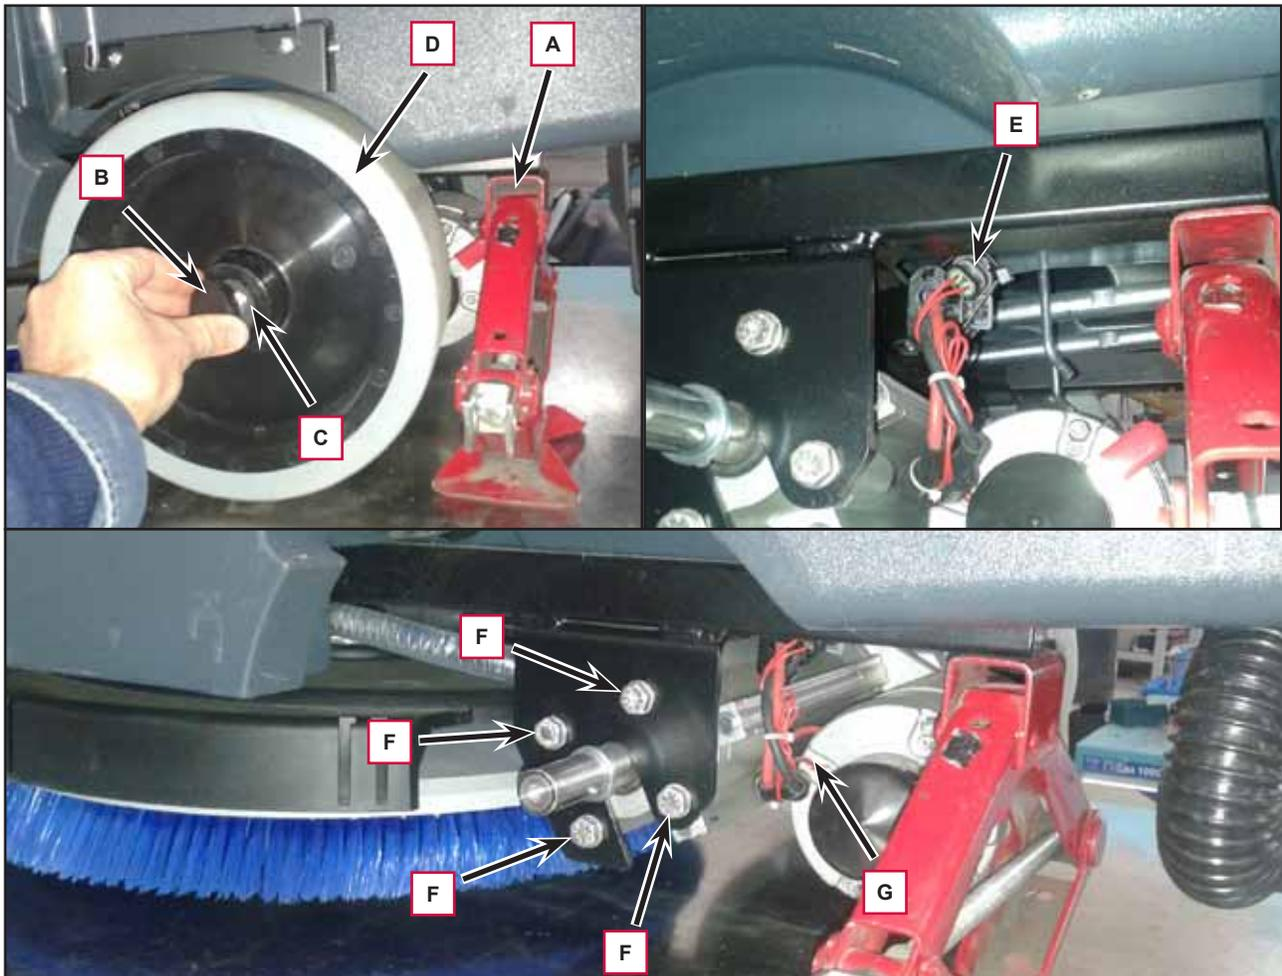

Figure 5
3. Apply a jumper wire (A, Figure 5) on the driver's seat sensor connector to disable the system.
5. Place a suitable lifting device (B) to raise one side of the machine approximately 2 cm from the floor (C) and allow one driving wheel to turn freely.
2. Place a suitable lifting device (A, Figure 5) to raise one side of the machine approximately 2 cm from the floor.
3. Remove the plug (B), remove the screw (C) and retrieve the washer.
4. Remove the wheel (D) and retrieve the key.
5. Disconnect the connection (E).
6. Remove the 4 screws (F) and retrieve the washer.
7. Repeat step 2 to 6 for the other wheel, then carefully disassemble the gearmotor (G) from the machine.